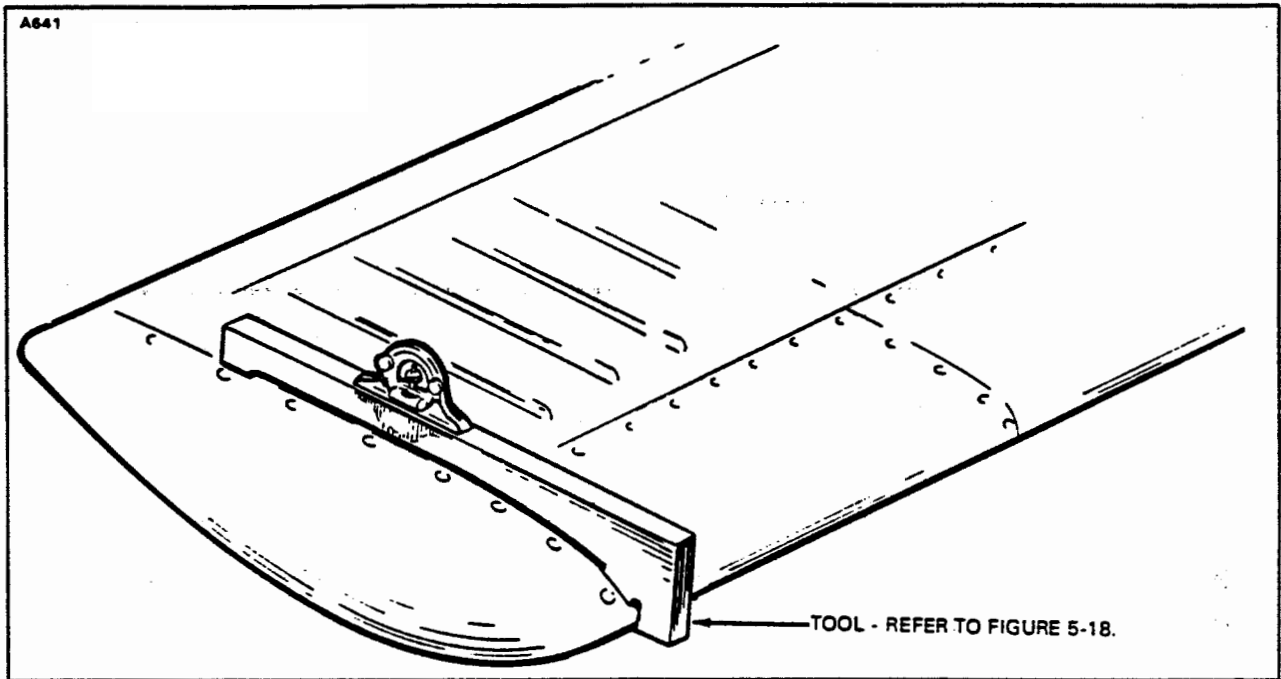

Figure 5-5. Stabilator Rigging Tool
1. Check the stabilator travel by placing a rigging tool on the upper surface of the stabilator as shown in Figure 5-5. (This tool may be fabricated from dimensions given in Figure 5-18.)
- c. Secure the stabilator in neutral position. To find neutral, place a rigging tool on the upper surface of the stabilator as shown in Figure 5-5. Zero a bubble protractor, set it on the rigging tool and tilt the stabilator until the bubble is centered.
- d. With the stabilator centered; turn the trim wheel (1) until the aft end of the turnbuckle (10) of the right trim cable (8) is approximately two inches forward of the double pulleys (13) at the top of the rear bulkhead at station 228.3
- e. Check that the trim screw (23) is turned down until the cotter pin stop in the top of the screw is contacting the plate (17) on the horizontal support rib (16) of the trim assembly. If the stop is not contacting the plate, the links (25) between the screw (23) and the trim control arm (28) are not disconnected, disconnect the two by removing the connecting nut, washers and bolt (24). With the turnbuckle still at the two inch dimension from the pulley, turn the screw down until the pin contacts the plate.
- f. Check the rod end (26) on the tab actuating arm (28) for approximately six threads forward of the jam nut (27).
- j. To obtain correct travels, if incorrect, adjust by disconnecting the links (25) at the actuating arm rod end (26) and turning the end in or out as required. Reconnect links to rod end.
- k. Secure the jam nut (27) on the actuating arm rod end.